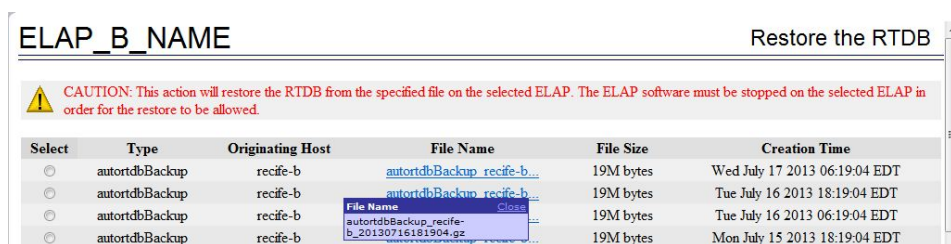

Figure 15: Restoring the RTDB
The screen shown in Figure 15: Restoring the RTDB is displayed.
7. On the screen shown in Figure 15: Restoring the RTDB, select the file that was transferred in Step 3. Click **Restore the RTDB from the Selected File**.